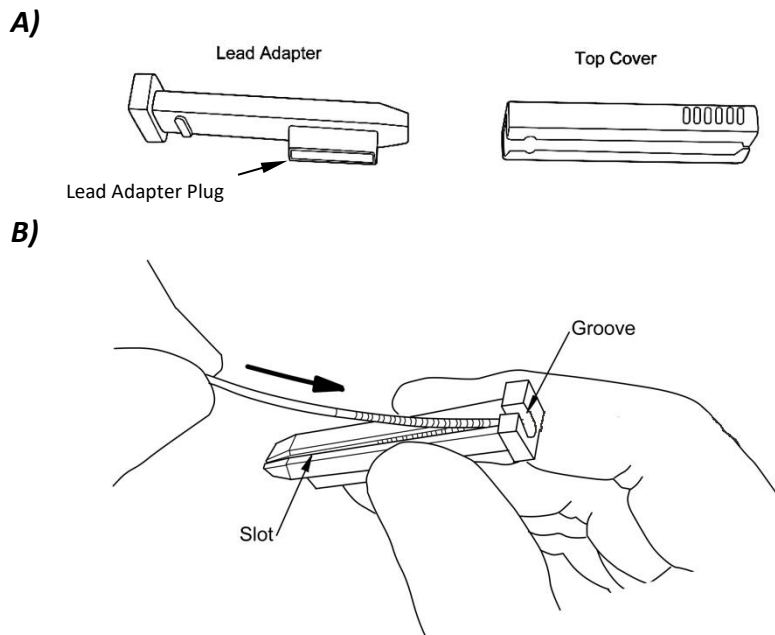

Figure 11.1: A) The lead adapter. B) Placing the tip of the proximal connector into the lead adapter slot.
1. Place the tip of the proximal connector end of the lead into the end of the lead adapter slot (Figure 11.1).